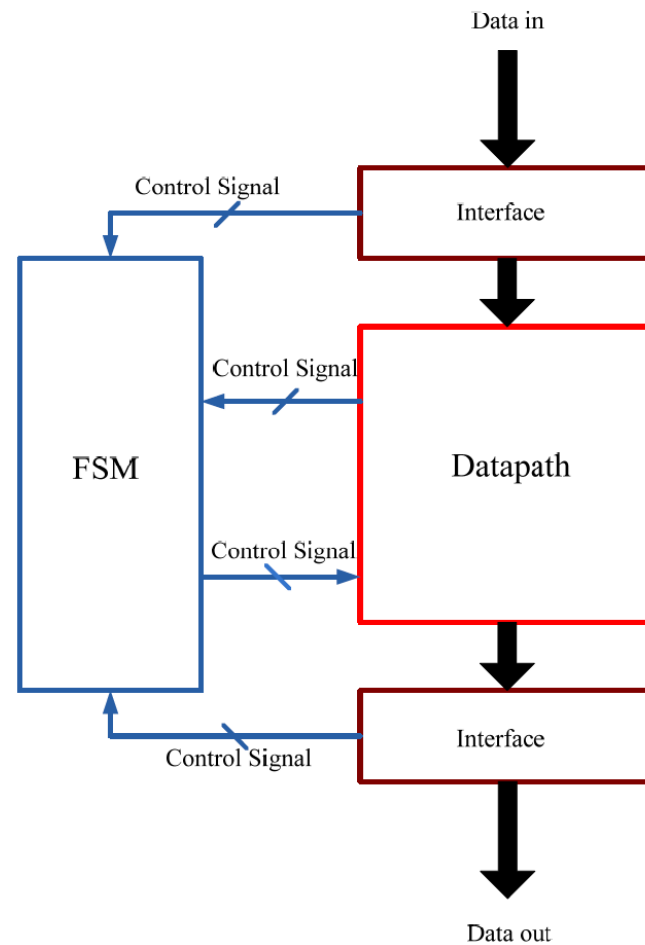

Figure 5-79 An architecture in a microprocessor
- As is shown in Figure 5-79, the control block is the brain of the processor and it supervises and instructs each unit working cooperatively.